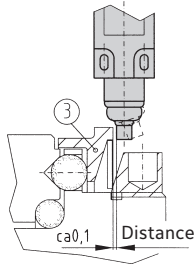

Figure 13
The axial movement of the actuation ring (3) can be sensed by either a mechanical switch or a proximity sensor. The distance the actuation ring moves is given in Table 2 and is important for the selection of the appropriate sensing device. Mount the sensing device on a solid support keeping the distance shown in figure 13+14. Without prior agreement it is not allowed to operate R+W torque limiters of the series SK and ES without end